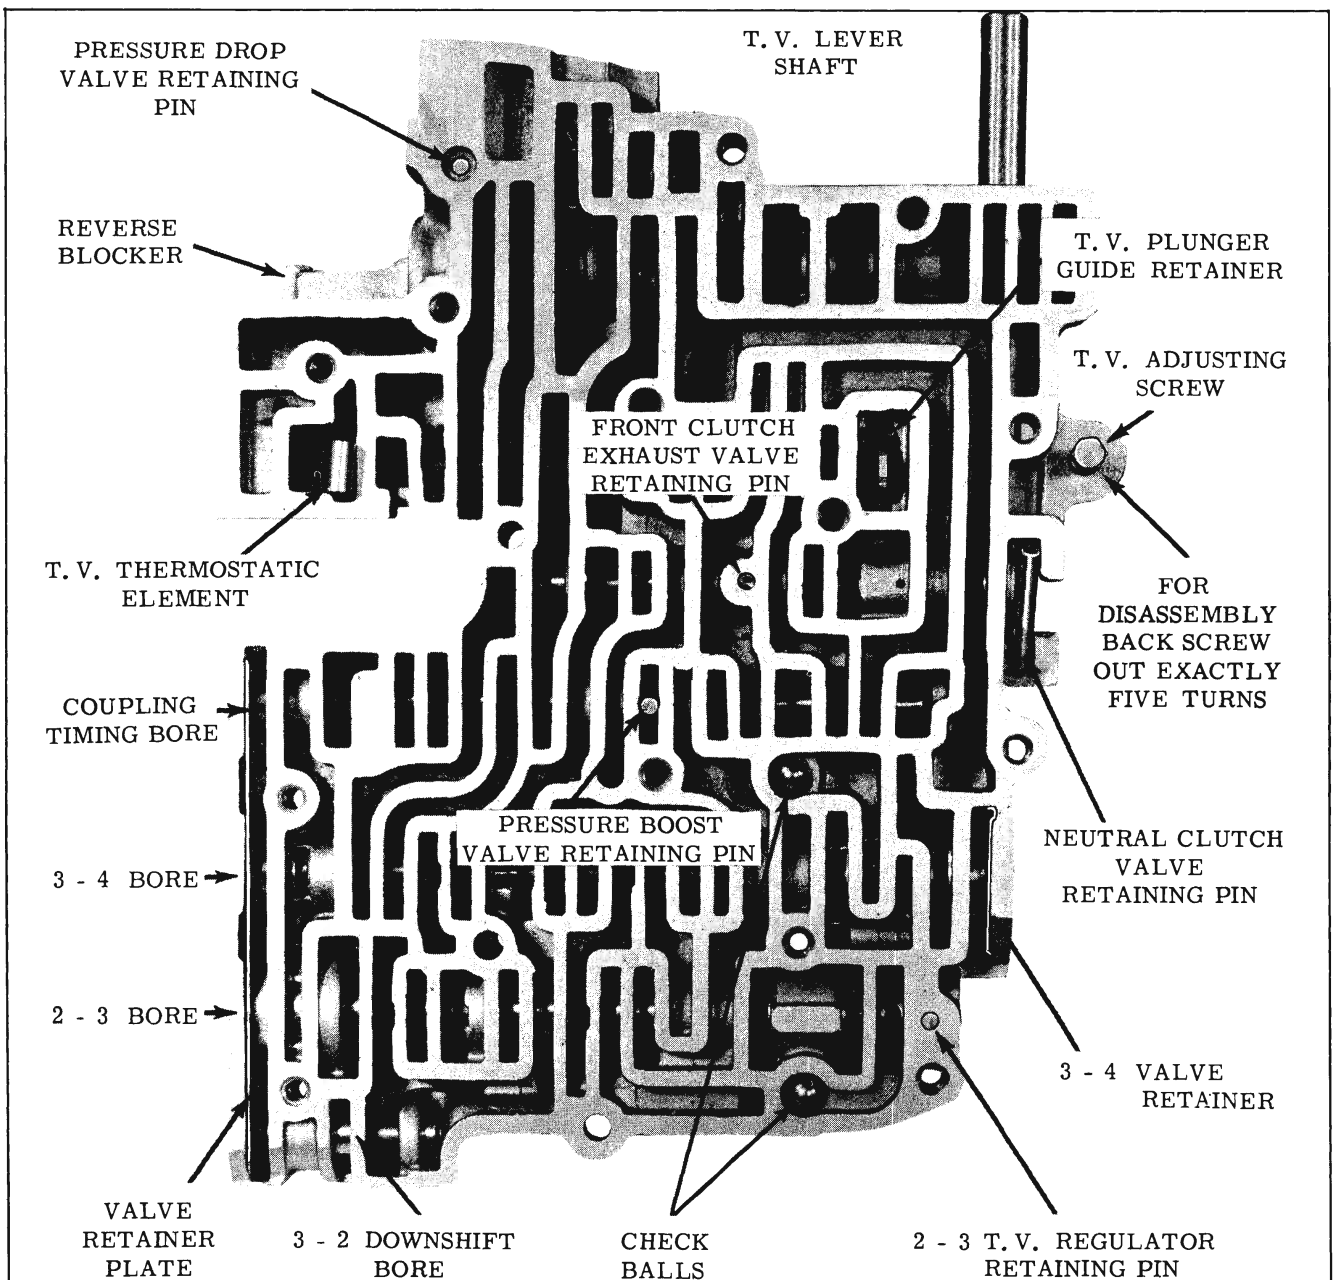

Fig. 3-90 Valve Body
6. Remove 2 check balls and the T.V. thermostatic element. (Fig. 3-90)
7. Remove T.V. plunger guide retainer located in cored passage near T.V. adjusting screw. Position control valve assembly with the cored side up and the T.V. lever positioned on the top right hand side. (Fig. 3-90)
27. Loosen T.V. adjustment screw EXACTLY 5 TURNS. (Fig. 3-90)